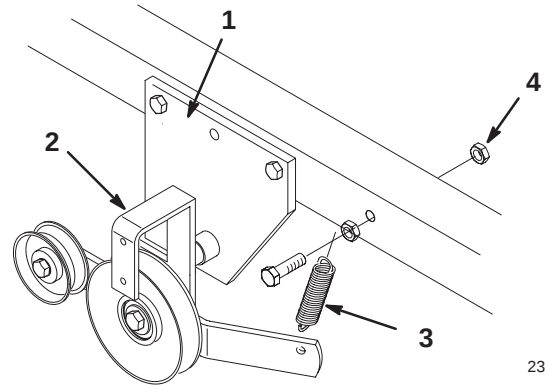

Figure 23
7. Remove second lock nut from spring mounting bolt and remove (Fig. 23).
4. Pull on idler arm spring to relieve belt tension and remove tiller drive belt from tiller pulley and slide belt out of groove (Fig. 23).
6. Open mid-mount hitch and remove idler bracket assembly (Fig. 23). Unhook spring from idler arm (Fig. 23).